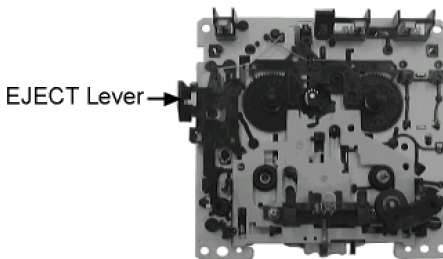

Fig. 6
1. Pull up the EJECT lever using a rubber band. (Fig. 6)